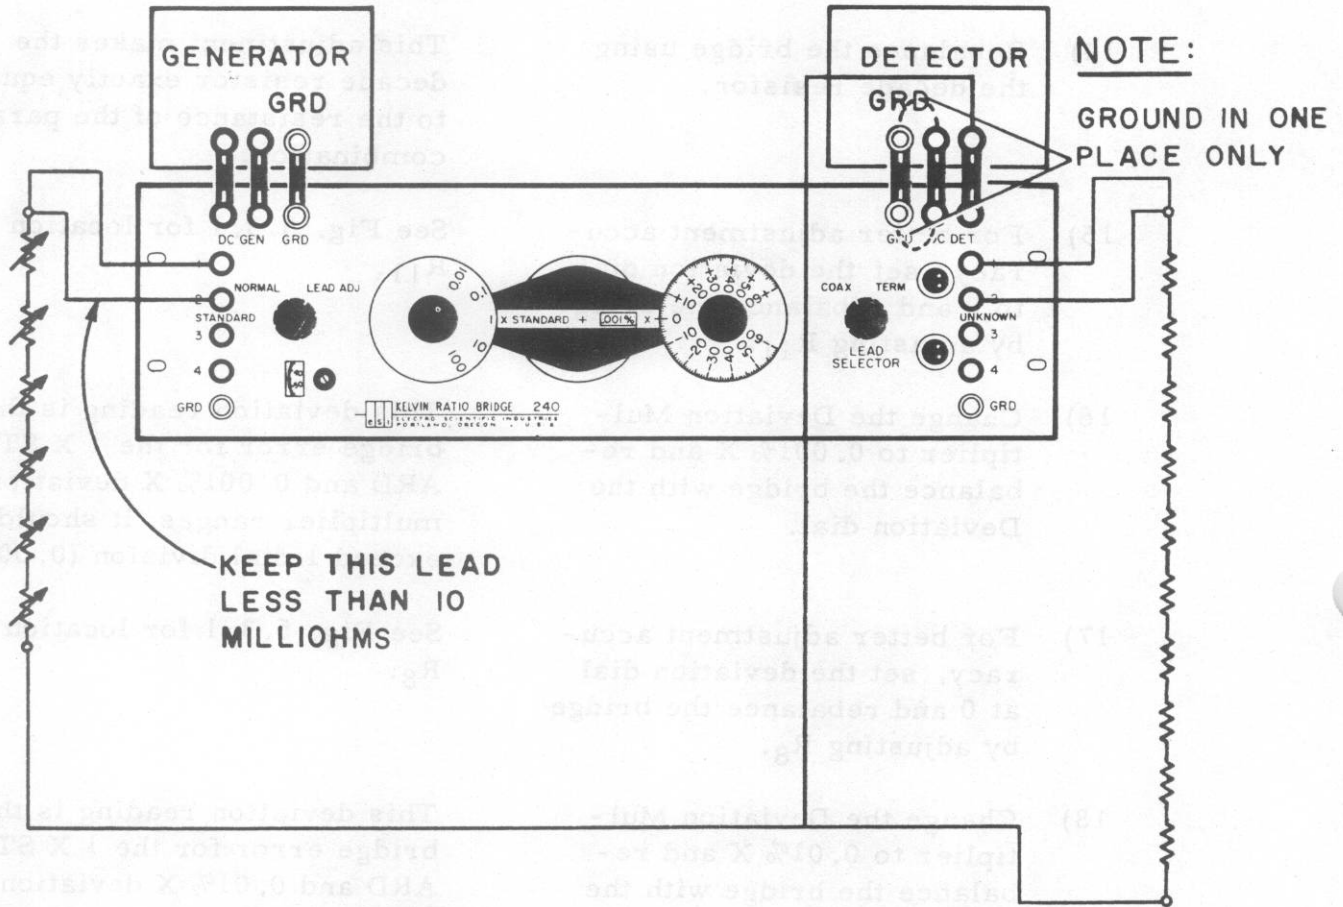

FIG. 4.3.2
2) Remove the paralleling connection from the transfer standard and connect its ten resistors in series to the bridge as shown in Fig. 4.3.2.